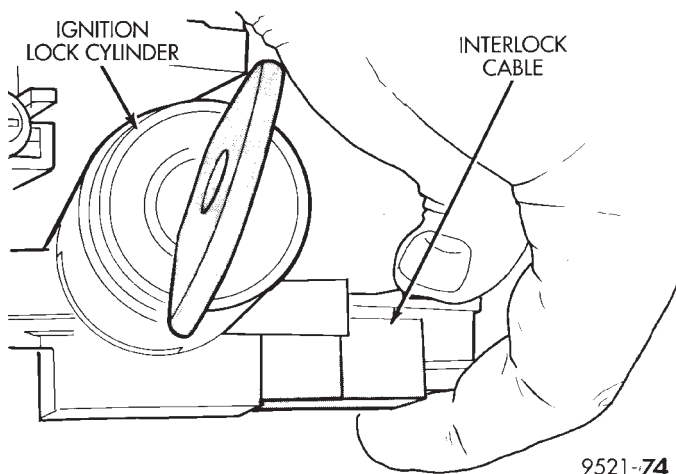

Fig. 17 Interlock Cable and Connector
(15) Tilt wheel to full down position and remove upper steering column shroud.
(16) Verify vehicle ignition is on. Grasp the interlock cable clip and connector. Remove the cable from the interlock housing (Fig. 17).